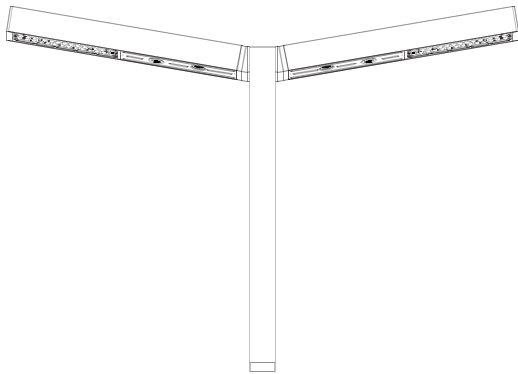

Fig. 16
2. After the assembly is completed, the finished product of the lamp body is shown in Fig. 16.